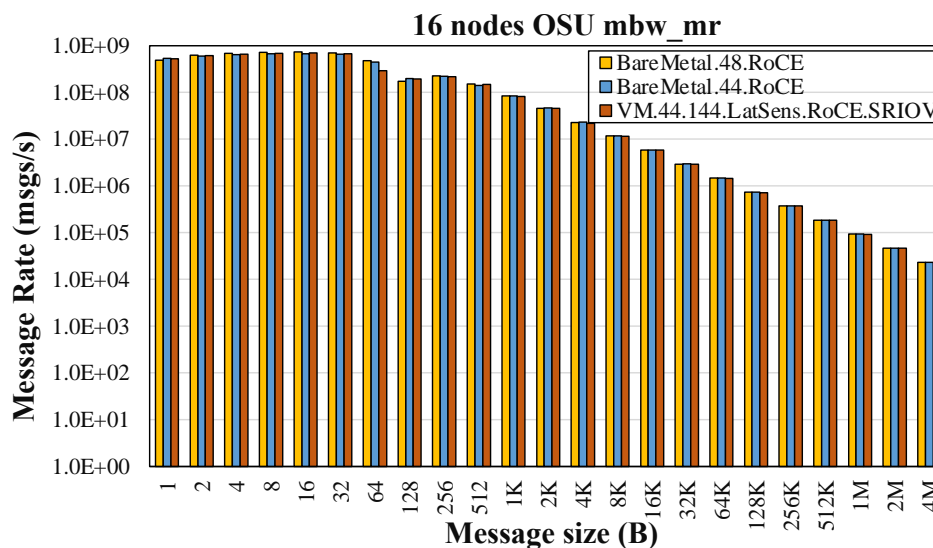
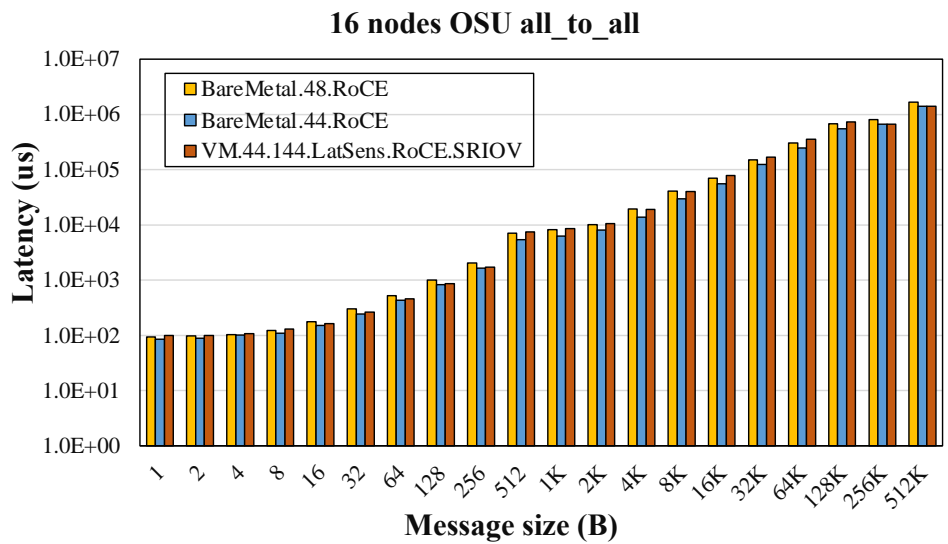

Figure 23: OSU MBW\_MR Test on 16 nodes.
Figure 24: OSU All-to-All on 16 nodes.
Since our server has been configured as dual-boot (bare metal and ESXi), we use the OSU benchmark to compare the communication performance first on the 16 bare metal nodes. Then on the 16 VMs, we run the OSU multiple bandwidth/message rate benchmark (mbw\_mr) (the results are in **Figure 23**) and collective benchmark (all\_to\_all) (the results are in **Figure 24**) with the first 2, then 4, 8, 12, and 16 VMs. Each datapoint uses an average of five runs. Since the VMs are using 44 vCPUs, for a fair comparison, we run 48 and 44 processes per node (PPN) on bare metal. The legend `VM.44.144.LatSens.RoCE.SRIOV` means the virtual machine uses 44 vCPUs, has 144GB memory, sets latency sensitivity to high, and uses RoCE SR-IOV. The legend format is also used in the later HPC application tests.
**Figure 23** shows that RoCE SR-IOV can achieve near bare metal performance on all message sizes for the aggregate bandwidth/message rate test.
In **Figure 24**, we notice `BareMetal.48.RoCE` has an average of 22% and 2% higher all\_to\_all latency than `BareMetal.44.RoCE` and `VM.44.144.LatenSen.RoCE.SRIOV` on all message sizes, respectively. This is because more communication is involved in the 16 nodes \* 48 PPN = 768 processes than in the 16 nodes \* 44 PPN = 704 processes. Since the 16 nodes all\_to\_all test is the pure and intensive communication test, we will continue working on further improvements to narrow down the virtual overhead.